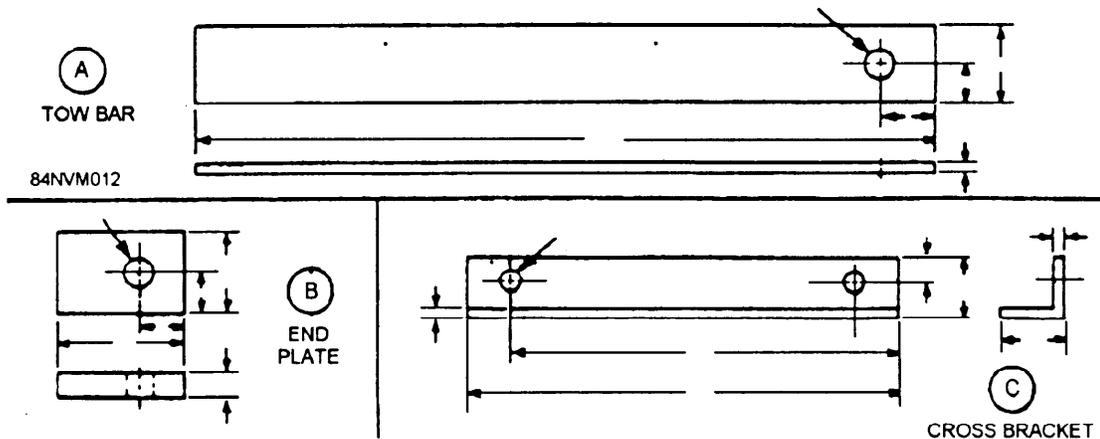

Figure 13-12.—Detail drawings.
**DETAIL DRAWINGS.**—Detail drawings are prints of single parts. The drawings provide an exact description of the part's shape, size, material, composition, surface finishes, tolerances, necessary shop operations, and other special requirements. Detail drawings often show where dimensions would be located on a part, as shown in figure 13-12.